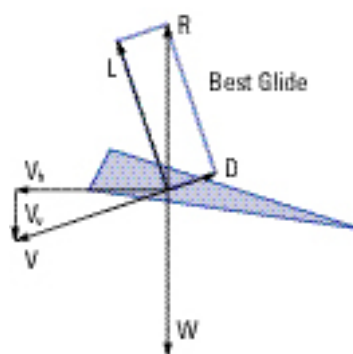

Figure 1
Let's have a look at a paraglider, without backpack engine, in flight (Figure 1). The force of gravity is represented by W , this is the total weight of the contraption, including the pilot. In a steady flight, without acceleration or de-acceleration, the total weight is always balanced by R , which is a combination of lift (L) and drag (D). Note that the lift force (L) is always perpendicular to the flight path and that the drag (D) created by the glider, the lines and the pilot is always directed opposite the flight path.
In Figure 1, V indicates the direction of flight. This V is a combination of vertical (V_v) and horizontal (V_h) movement. The ratio V_h over V_v is the same ratio as L over D (the Glide Ratio). To maximise the distance travelled you need to maximise V_h and minimise V_v .